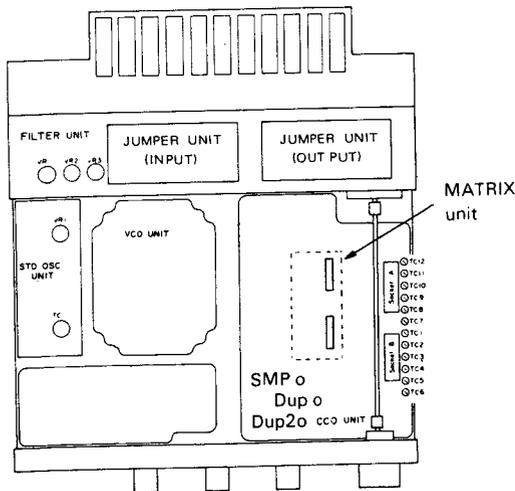

Fig. 1 Top View
1. The points to be modified and adjusted are shown in Fig. 1